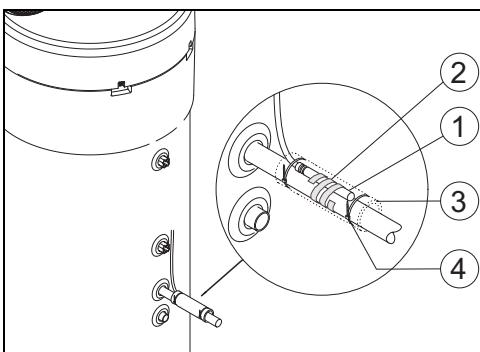

Fig. 8
- Position the temperature sensor NTC of the accessories [1] as shown in Fig. 8.